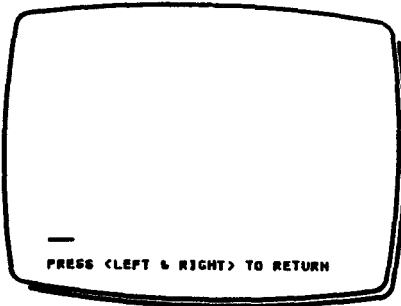

Fig 1
The system handles text in a unique and powerful way. From the computer keyboard you can type dimensions, labels and notes for your drawings, or you can compose paragraphs and formatted blocks of text for page layouts, reports and forms. See Fig 1.
- 2 Select TEXT from the Menu. The palette is replaced with an area for text entry, see Fig 1.